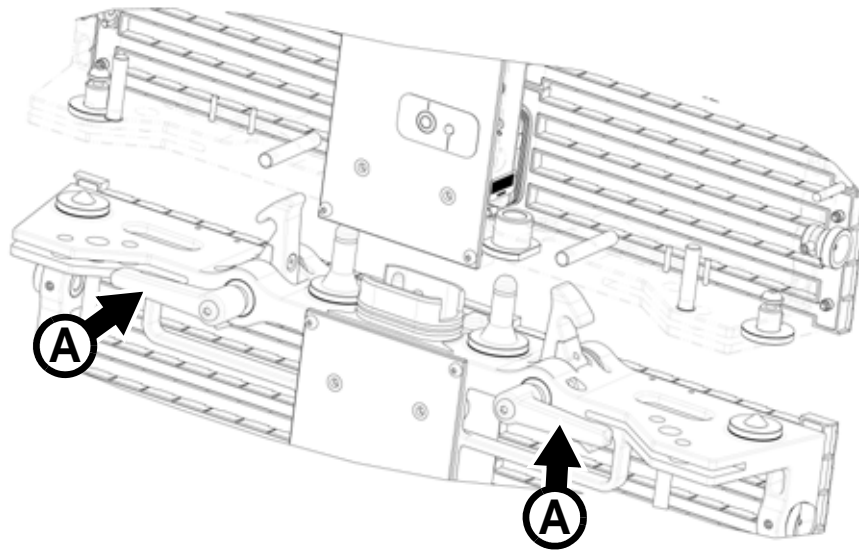

Figure 9: Locking handles before installation (cutaway view)
2. Check that the locking handles **A** are in the fully open position as shown in Figure 9.
- Continue hanging panels, removing rubber connector covers, inserting connectors and fastening the top of each panel to the bottom of the panel above as shown in Figure 9. Up to a maximum of sixteen panels in total may be suspended from one Header.